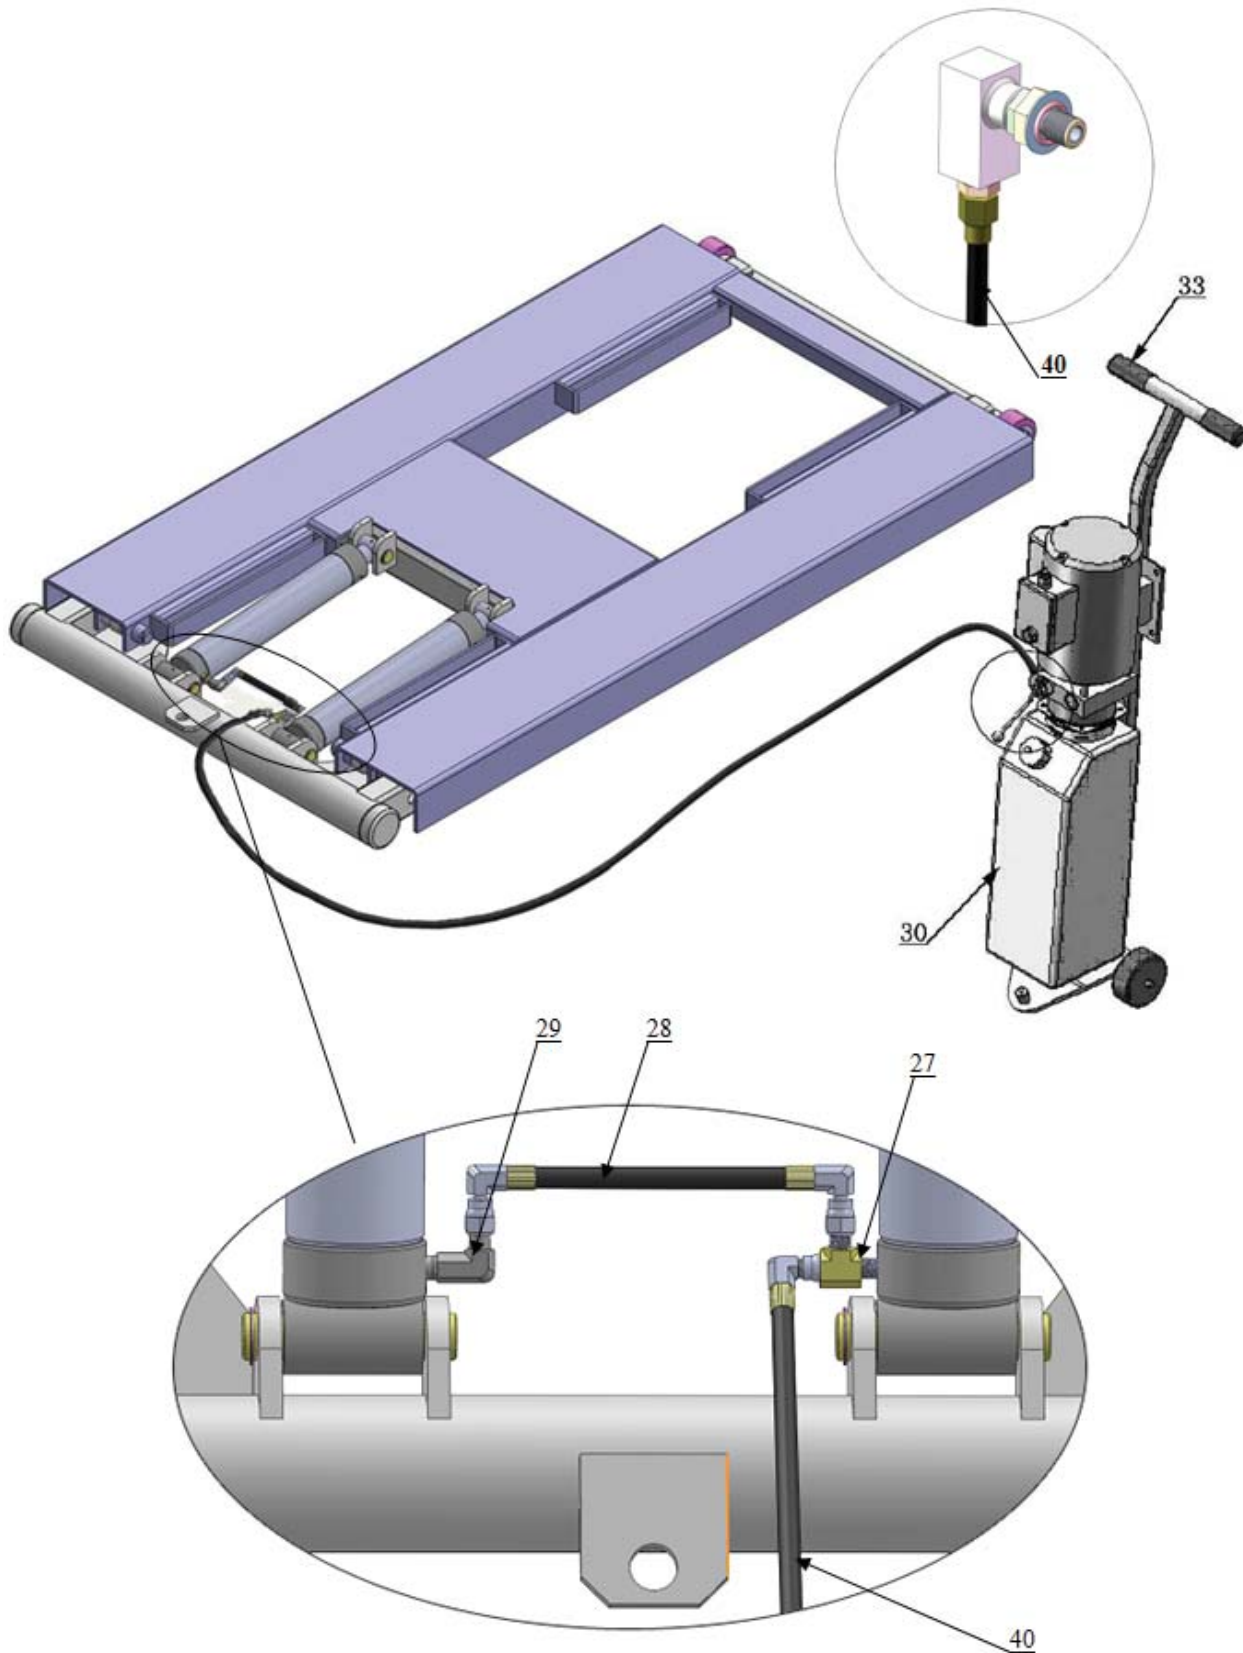

Fig. 7
C. Install oil hose assembly (See Fig. 7).